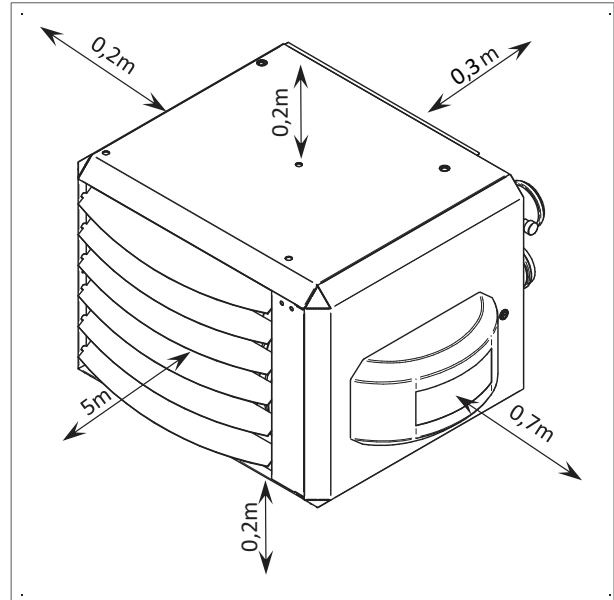

Figure 5 - Minimum clearances around the air heater
- Keep sufficient distance between the heater and any obstructions. This is both for safety reasons and to allow access for service and maintenance (figure 5).